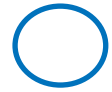

Figure 20. Enecsys Gateway Default View
- If the Enecsys gateway displays the check symbol “✓” on the Default View screen, communications link between the gateway and the inverters is established and is reliable. See “Figure 20. Enecsys Gateway Default View” on page 23.